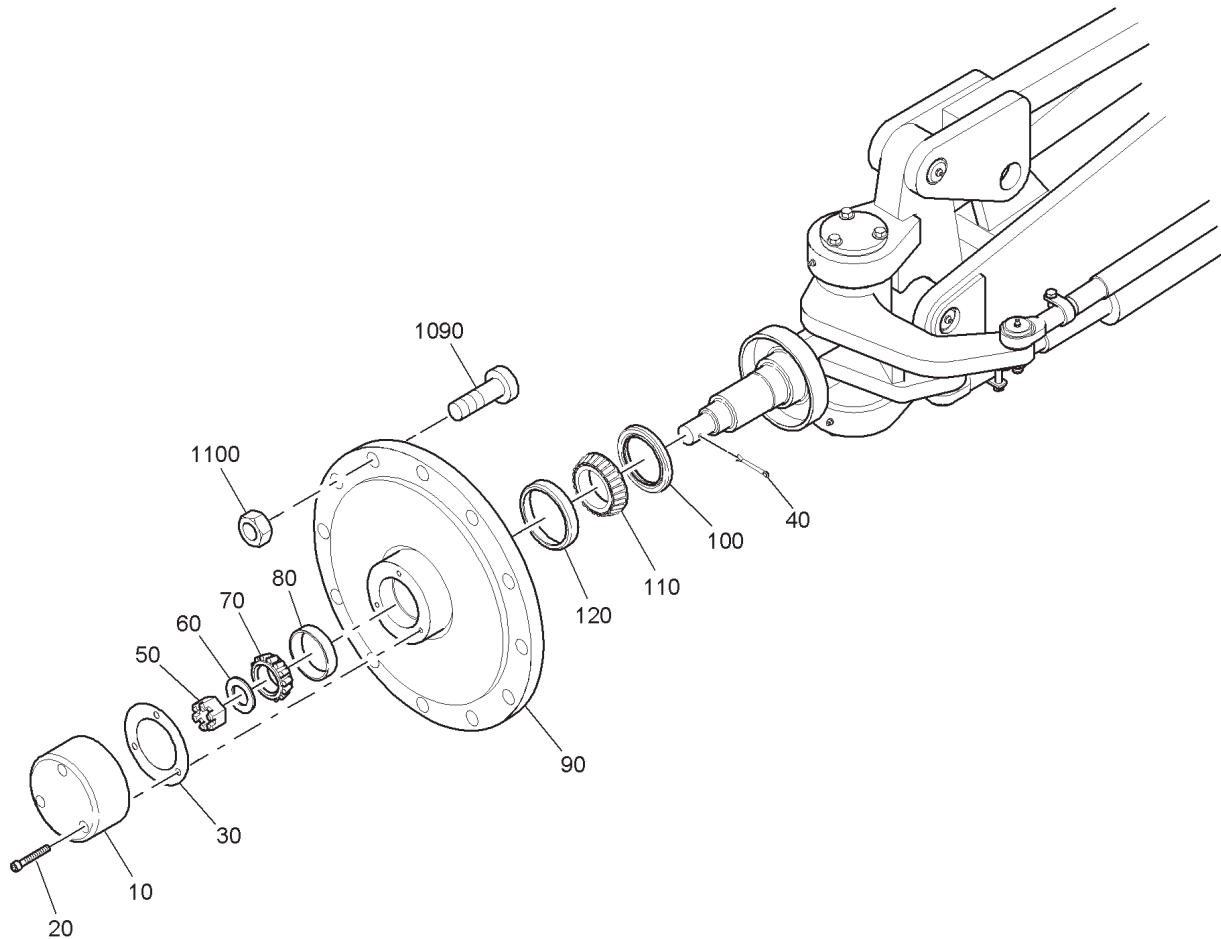

Figure 7-8. . Front Wheel Assembly
1. Remove the following parts, see Figure 7-8.
- a. Hub cap (10)
- b. Gasket (30)
- c. Cotter pin (40) and castle nut (50)
- d. Retainer Washer (60)
- e. Bearing cone (70)
- f. Wheel Hub (90)
- g. Bearing cone (110)
- h. Bearing cup (120)
- i. Tandem axle seal (100)